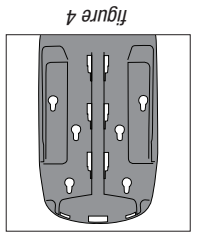

figure 4
2. Using the dispenser as a template, mark hole locations on wall. (see figure 4)